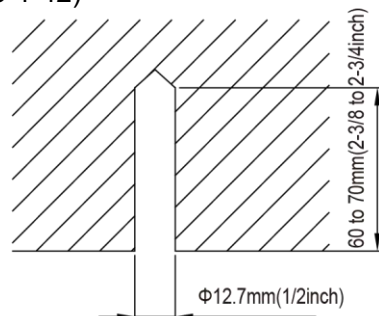

Figure 3-1-41
- (2) Install the bolts to the ceiling at a place strong enough to hang the unit. Mark the bolt positions from the installation template. With a concrete drill, drill for 12.7 mm (1/2") diameter holes. (Figure 3-1-41)